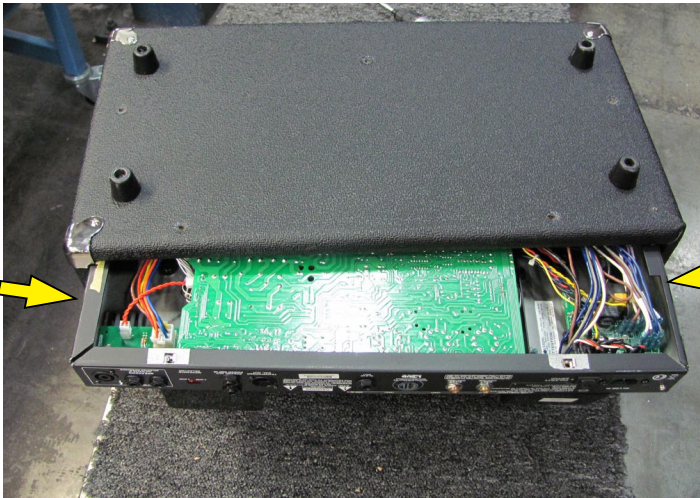

Figure 8a
8. Once the Power Amp assembly is halfway out, seen in Figure 8a you will be able to grab the chassis from the sides to complete the removal. Set it carefully on the transformers once it is clear of the cabinet. Remember the Pre Amp is attached and care should be taken.